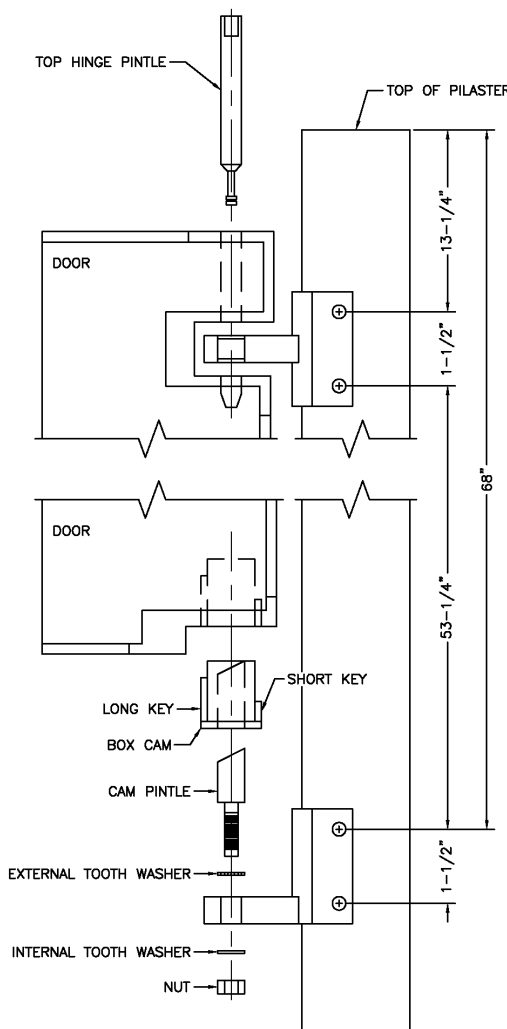

Figure 9A
- a. Attach top and bottom hinge brackets to pilaster with thru bolts (4-total). If pilasters were not pre-drilled at the factory, use dimensions shown in Figure 9A as a drilling (1/4" bit) guide.
- b. Assemble cam pintle, external tooth washer, internal tooth washer, and 1/2" hex nut to the bottom hinge bracket as shown in Figure 9A and hand-tighten (to be wrench-tightened later).
- c. Insert box cam into bottom door casting as shown in Figure 9A, with short key pointing toward hinge side (edge) of door.
- d. Set door onto bottom hinge cam pintle. Bring door up so the top hinge casting is in line with the top hinge bracket as shown in Figure 9A. Insert the top hinge pintle and tap it down so it's flush with the top of the door.